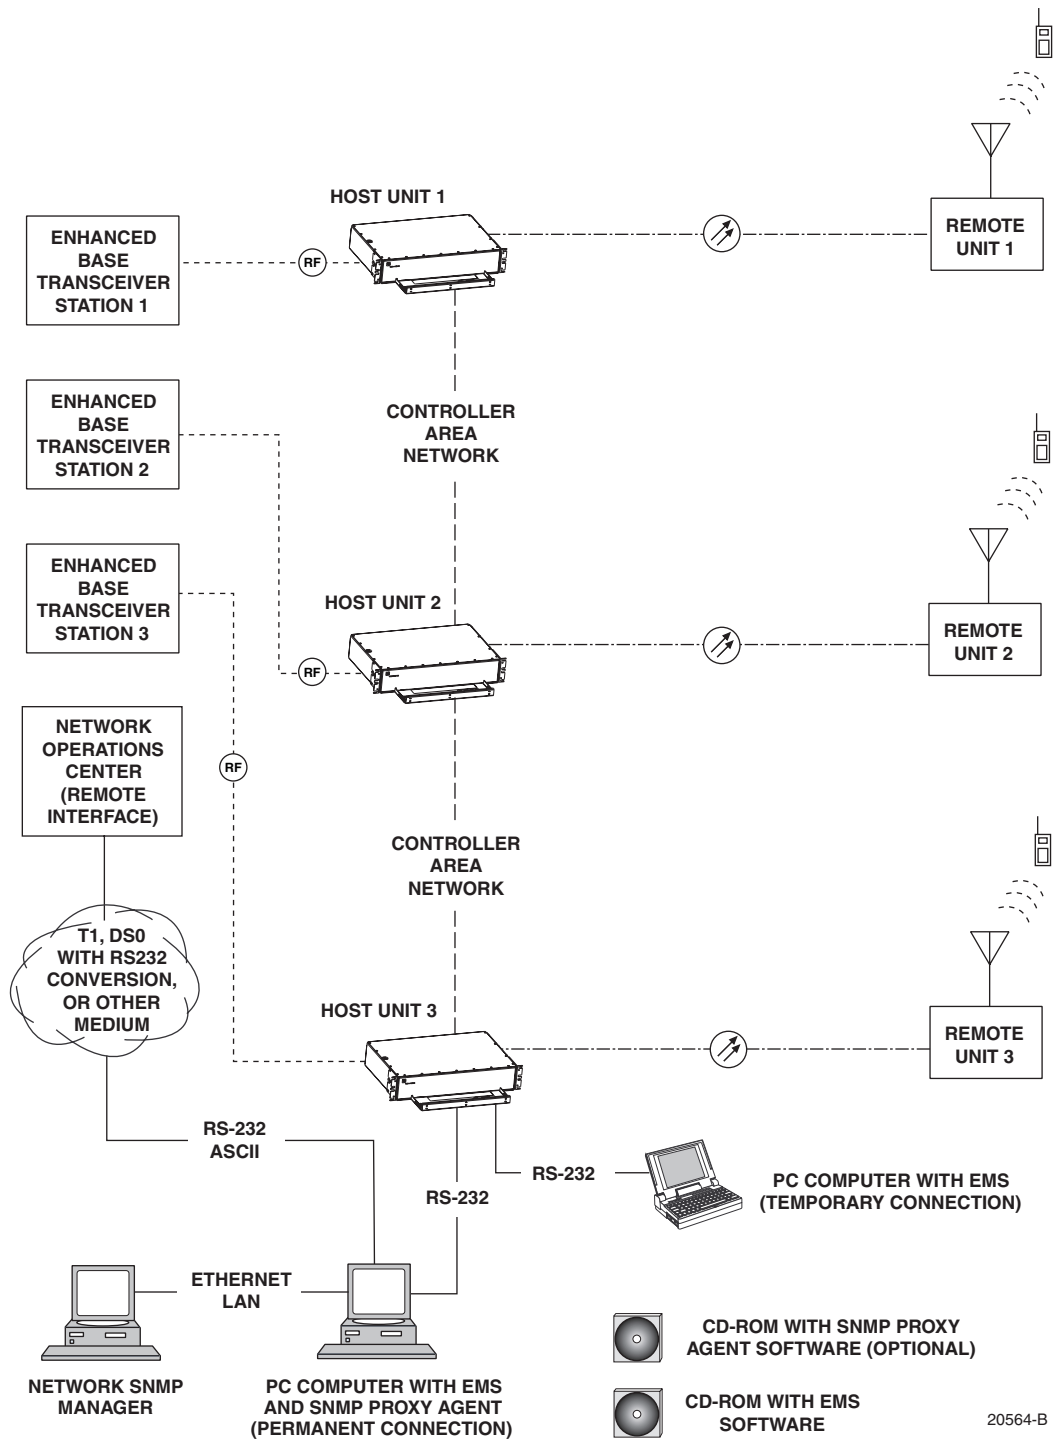

Figure 1-1. SCS System Overview Diagram
The basic components of a typical Digivance SCS system and their function are shown in Figure 1-1. A basic SCS system consists of a Host Unit (HU) and a Remote Unit (RU). The HU consists of a rack-mountable chassis that is designed for use in an indoor environment. The RU consists of a sealed enclosure that is designed for use in an outdoor environment. Control and monitoring functions are provided by the Digivance Element Management System (EMS).
The RU interfaces with the subscriber units (cell phones) through an antenna. In the reverse path, the RU receives RF spectrum from each subscriber unit (see Figure 1-1). The RU digitizes the RF spectrum and then converts it to digital optical signals for transport to the HU over the optical fiber link. In the forward path, the RU receives digital optical signals from the HU. The RU converts the optical signals to RF spectrum for transmission to the subscriber units. The RU is connected to an antenna (not provided) which transmits and receives the subscriber unit RF spectrum.